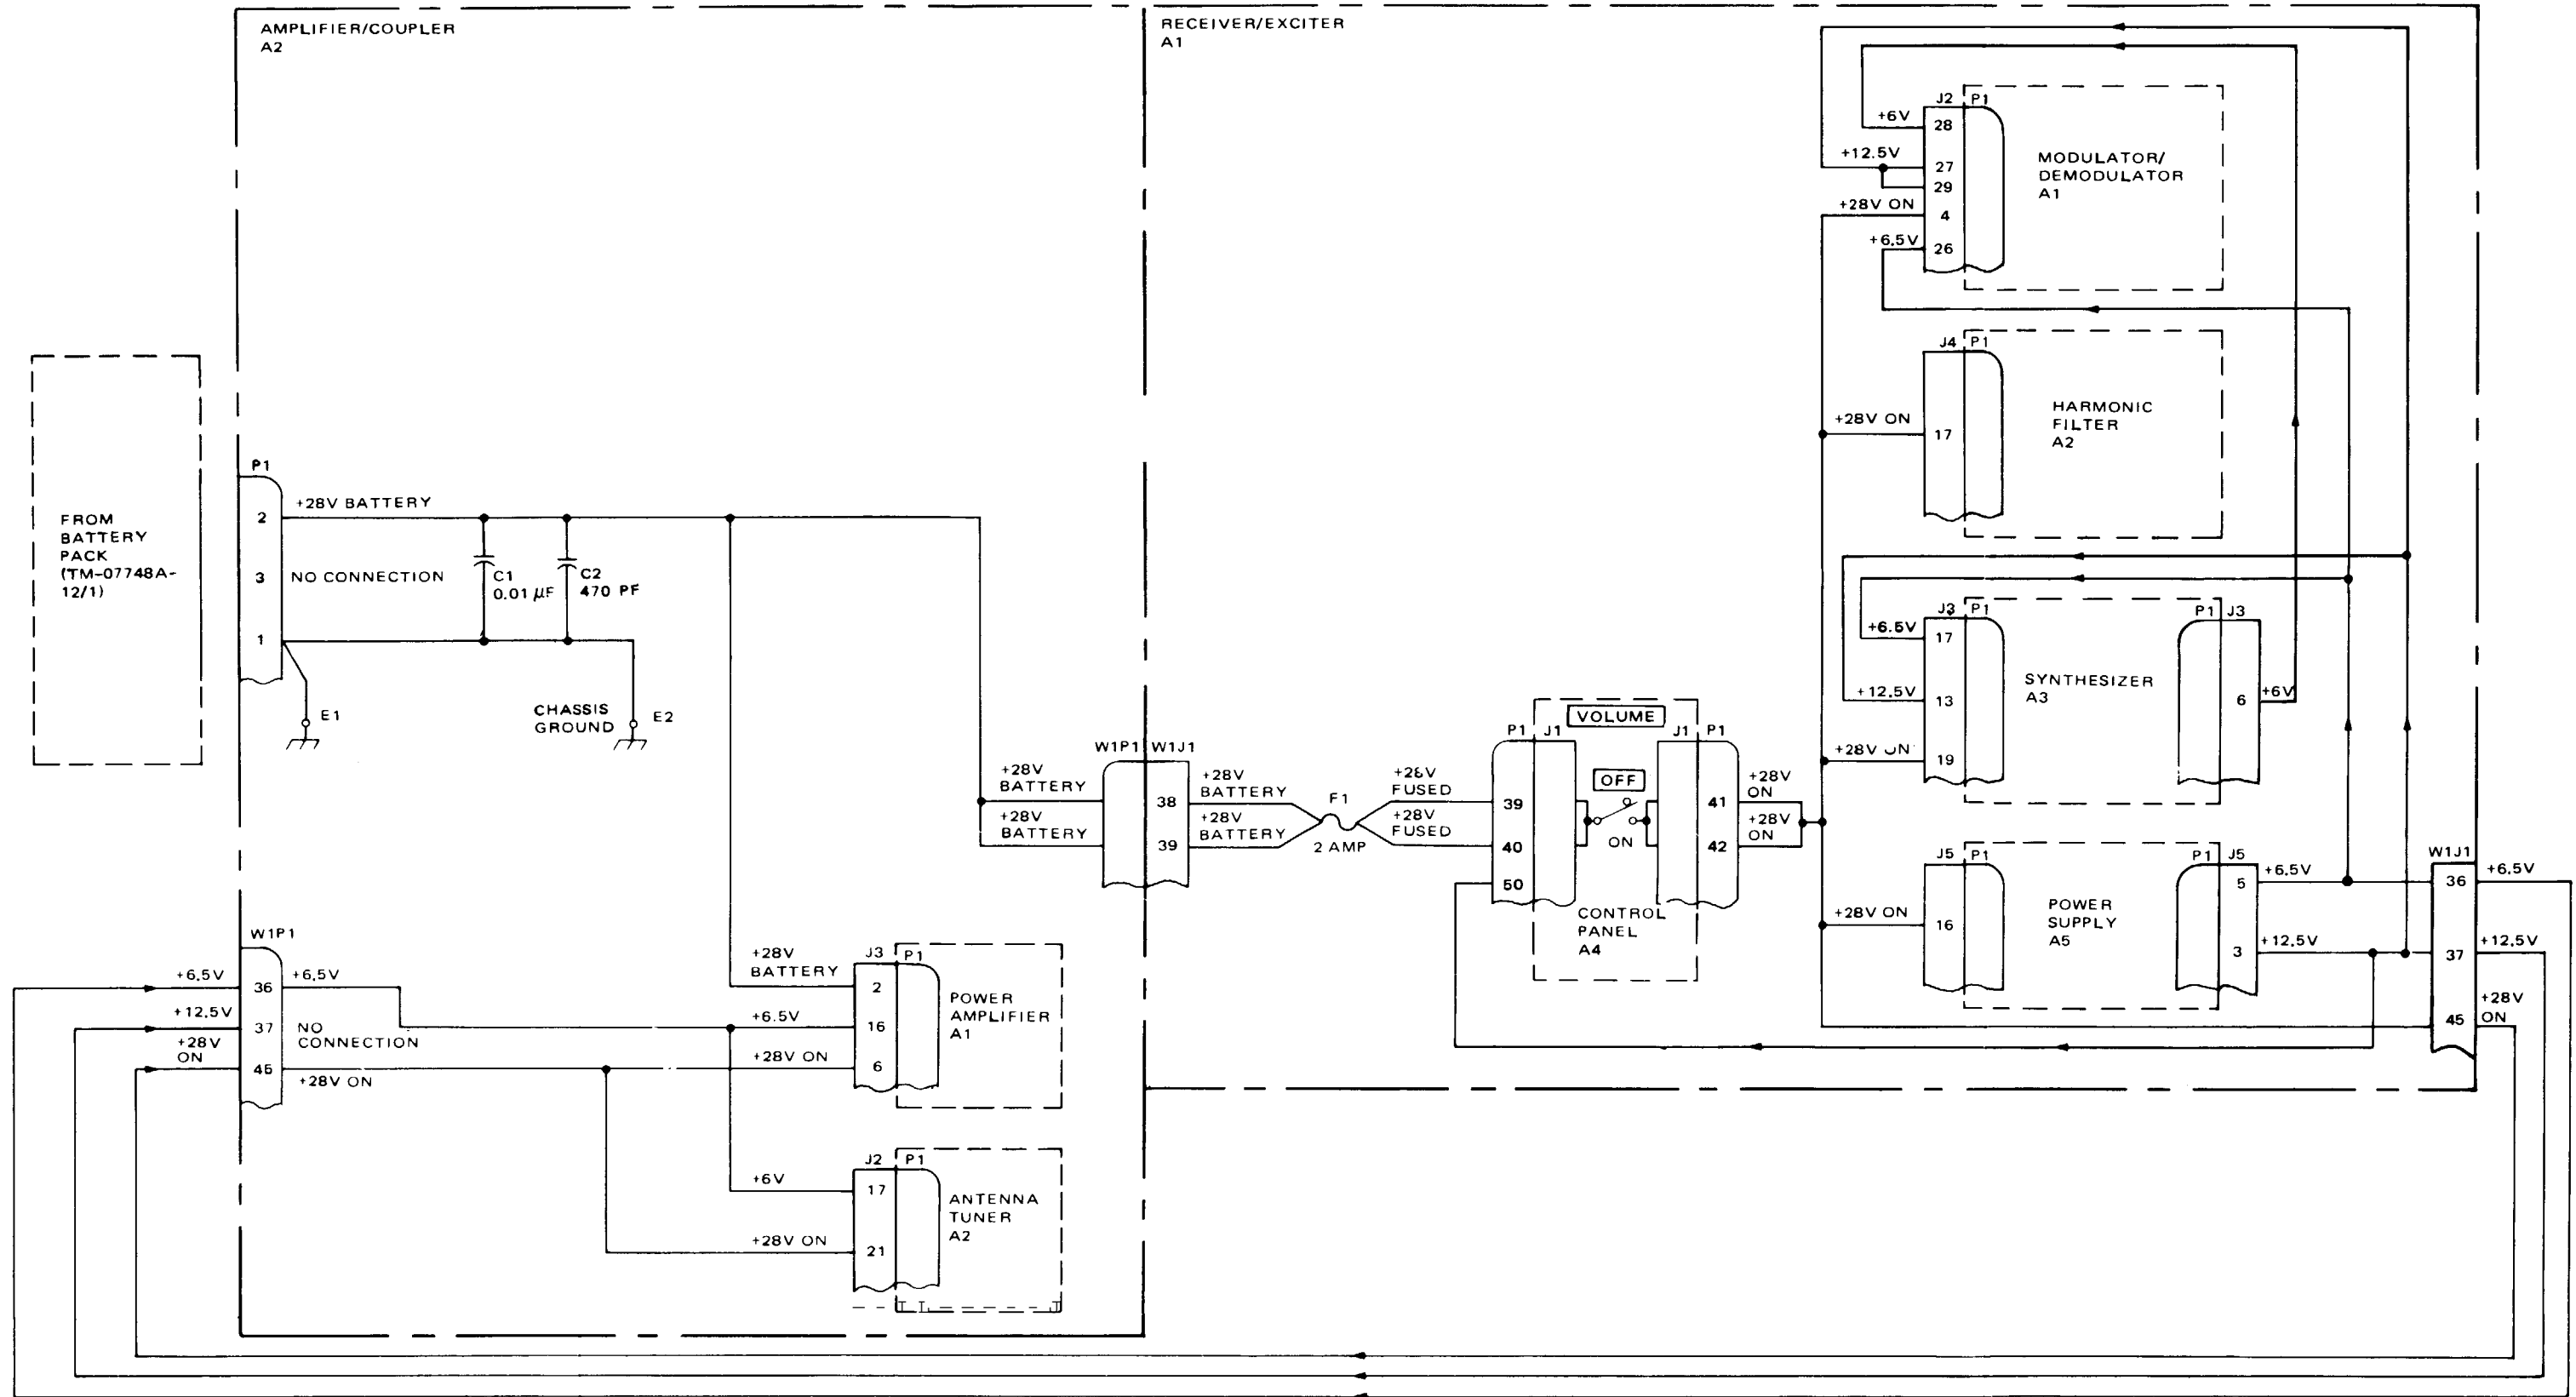
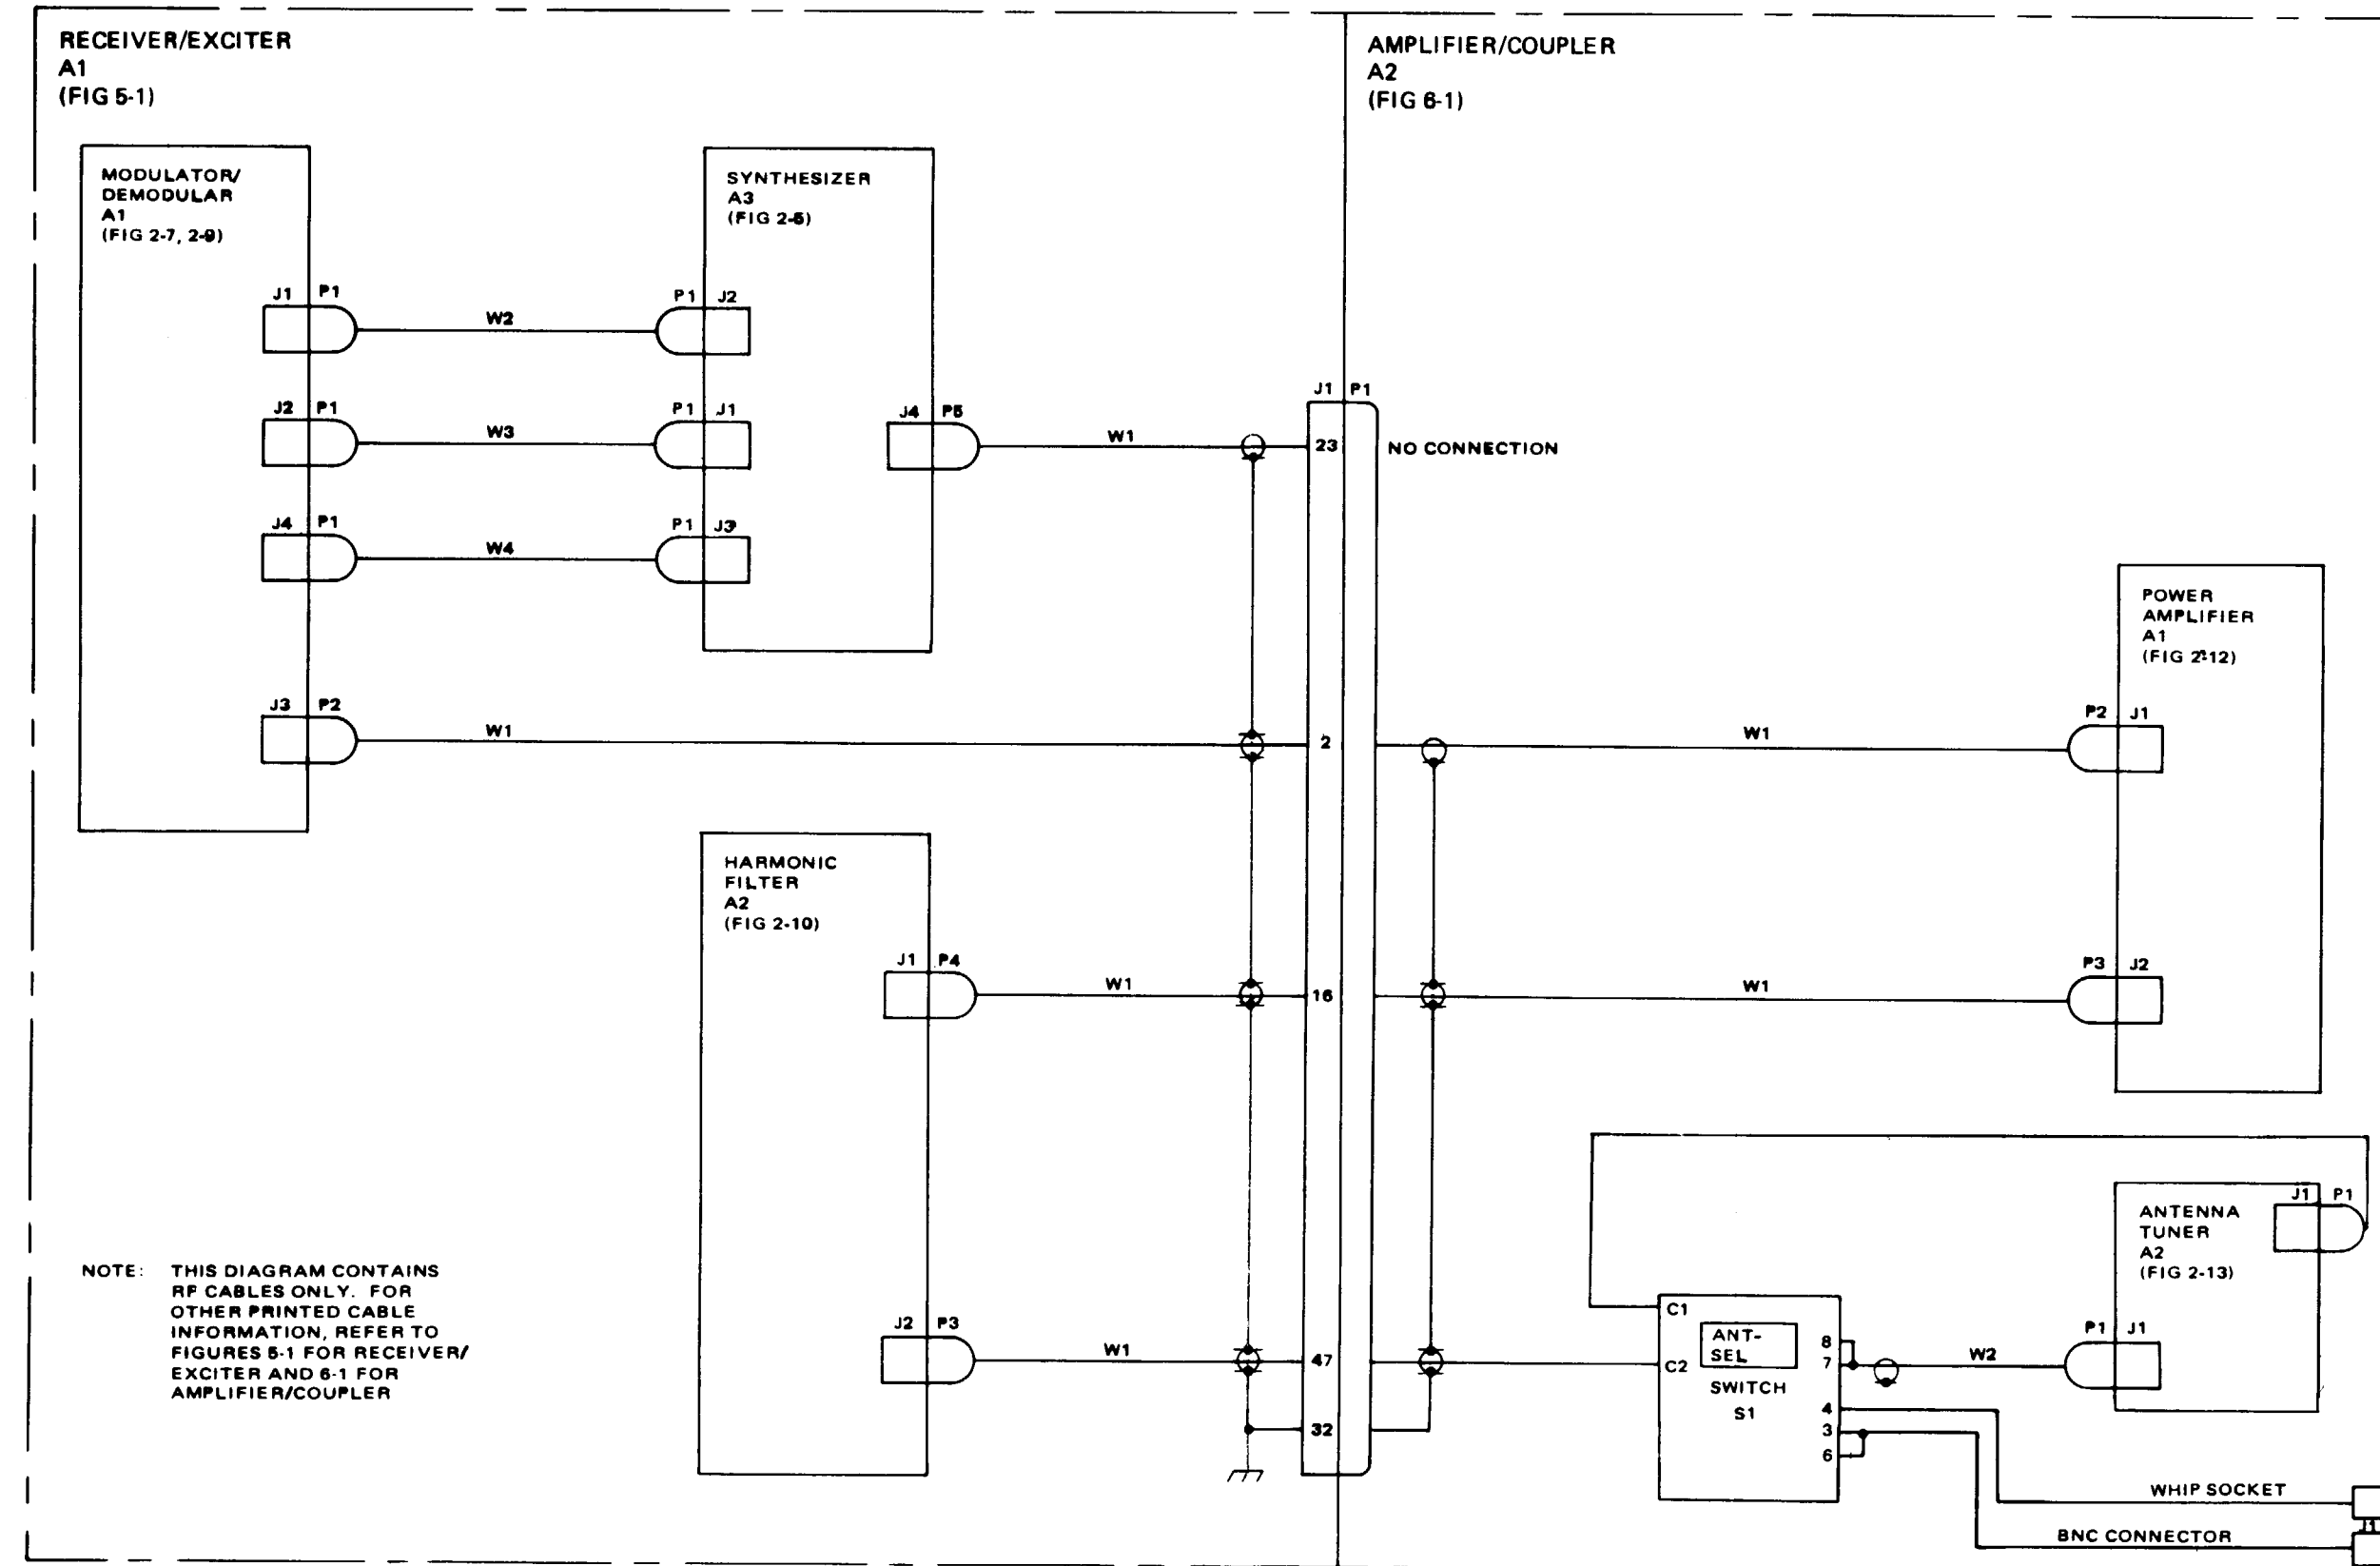
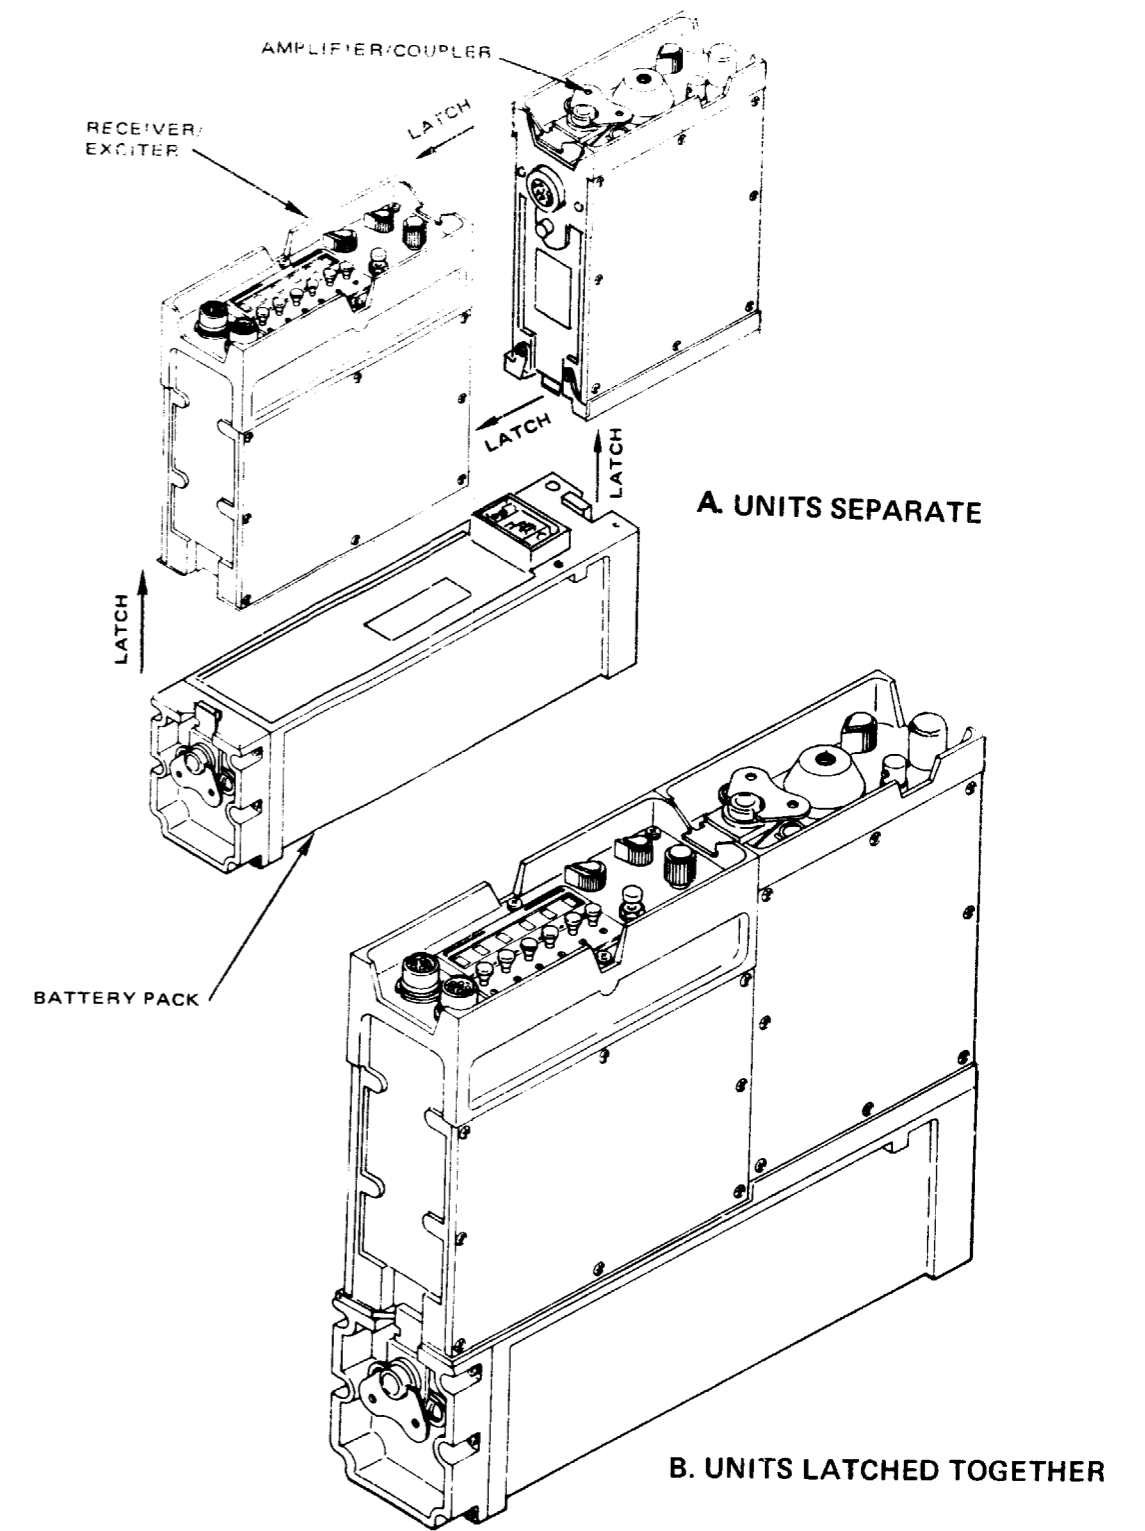
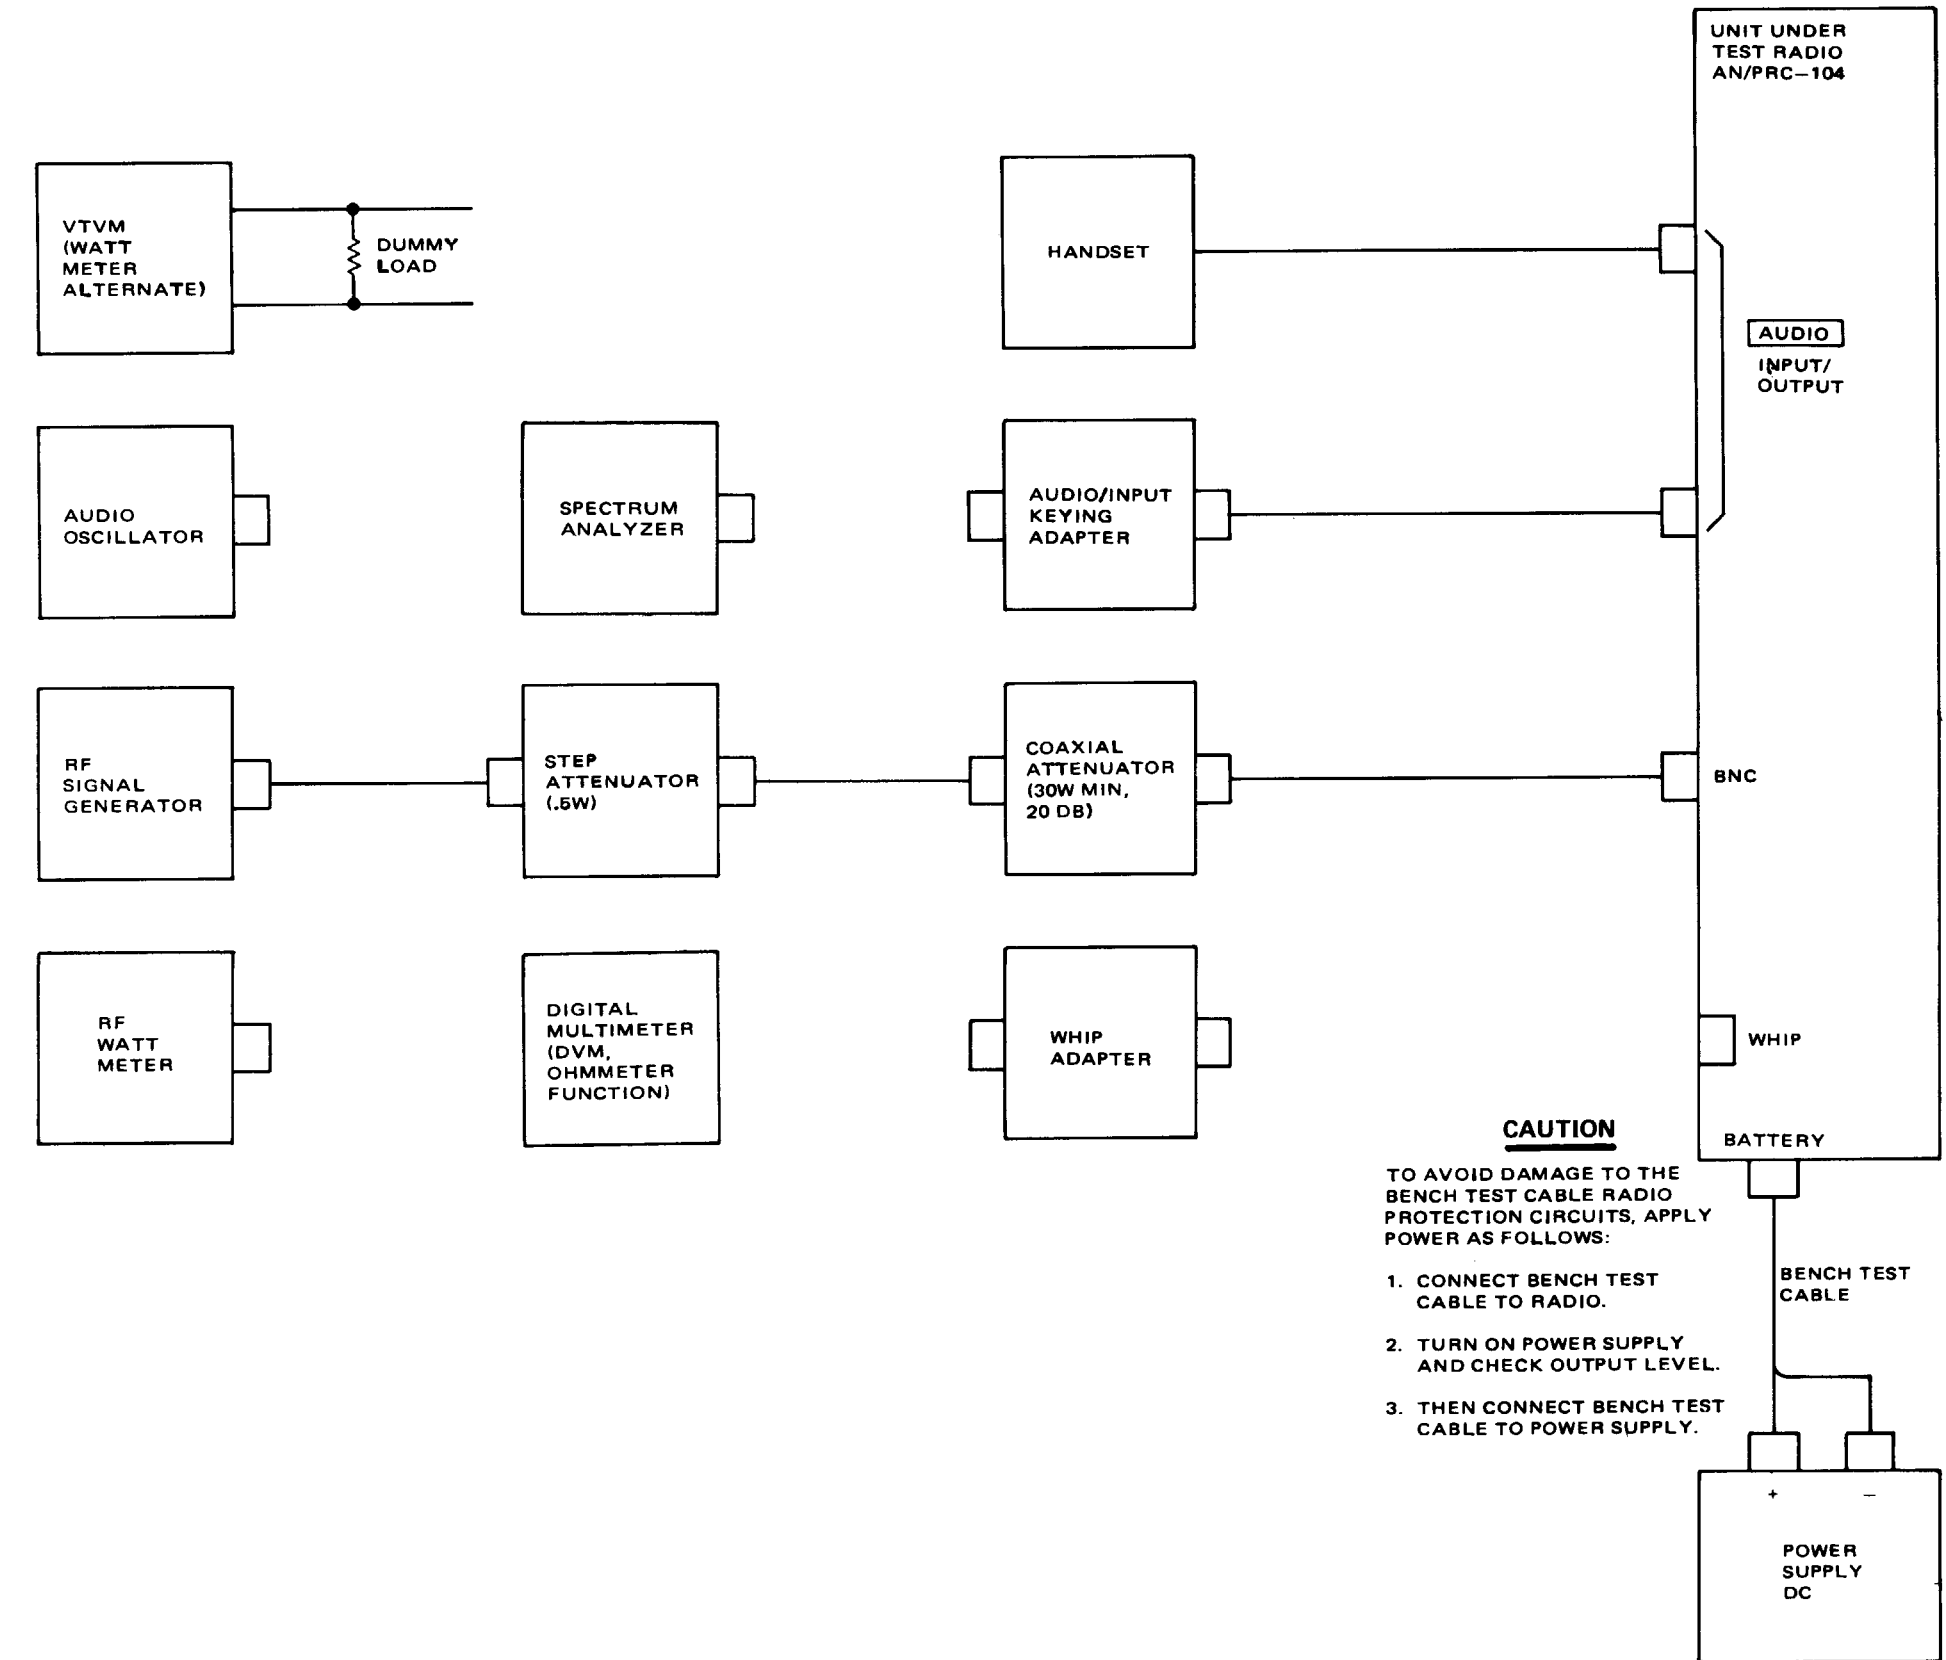

Figure 4-1. Radio Set Power Distribution
Figure 4-2. Radio Set RF Cabling
Figure 4-3. Radio Set Component Location
Figure 4-4. Radio Set Performance Test Setup
7. Maintenance Diagrams (power distribution (fig 4-1), rf cabling (fig 4-2), component location (fig 4-3), test setup (fig 4-4), performance test and troubleshooting (fig 4-5))
4-7. ASSEMBLY REMOVAL (Figure 4-3).
4-9. ASSEMBLY REPLACEMENT (Figure 4-3).
figure 4-1 and rf cabling diagram figure 4-2. Once a fault has been isolated and corrected, the performance test must be repeated. Do not skip blocks in the performance test, because succeeding blocks may be predicated on certain faults being eliminated.
4-16. The performance test setup is shown in figure 4-4 and the performance test procedure is as shown in figure 4-5.
list figure 4-3 for the radio set. The repair parts lists for the radio set are included in the unit chapters 5 and 6.